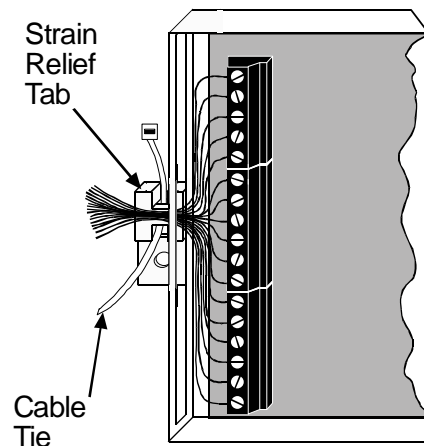

Figure 7: Insert the Cable Tie
- 2) Bunch the wires attached to the D2071A together (see Figure 7). Make sure none of them become disconnected.